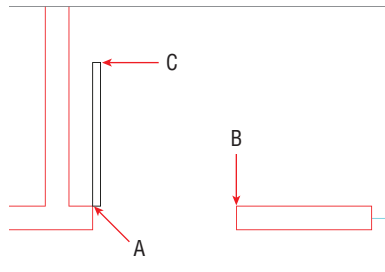

FIGURE 7.6 Drawing a door
4. Click the Rectangle tool in the Draw panel. Snap the first corner at point A, as shown in Figure 7.6. Type **@1.5,2'6"** (or **@4,75** for metric), and press Enter to complete the door.
5. Click to open the Arc pull-down menu on the Draw panel, and select the Center, Start, End tool. Click points A, B, and C as shown in Figure 7.6 to create the swing.